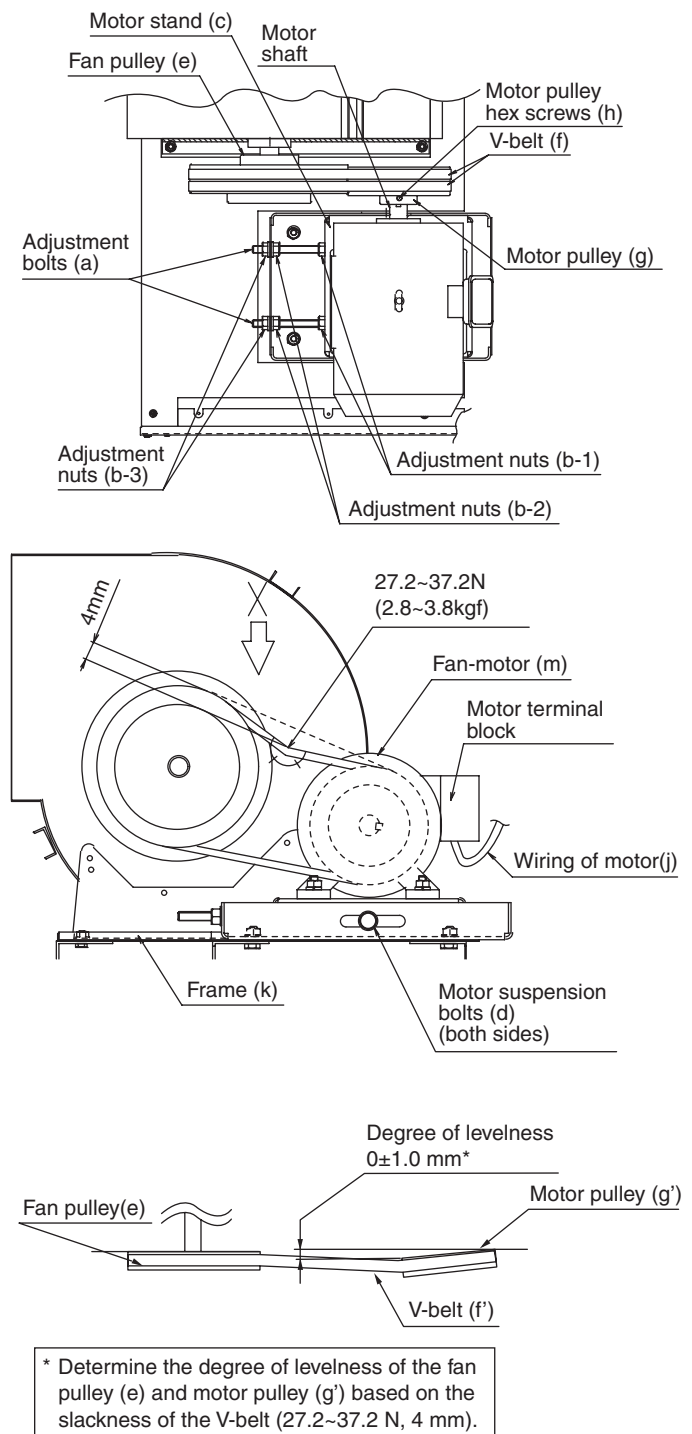

Fig.6
14. Adjust the levelness of the fan pulley (e) and motor pulley (g') and the slackness of the V-belt (f'). <Refer to Fig. 6>